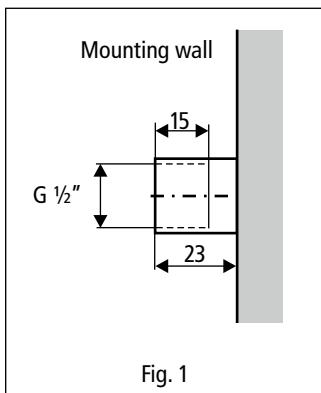

Fig. 1
- A water connection 23 mm long with G  $\frac{1}{2}$ " internal thread and a thread length of at least 15 mm must be available for installation (see Fig. 1).